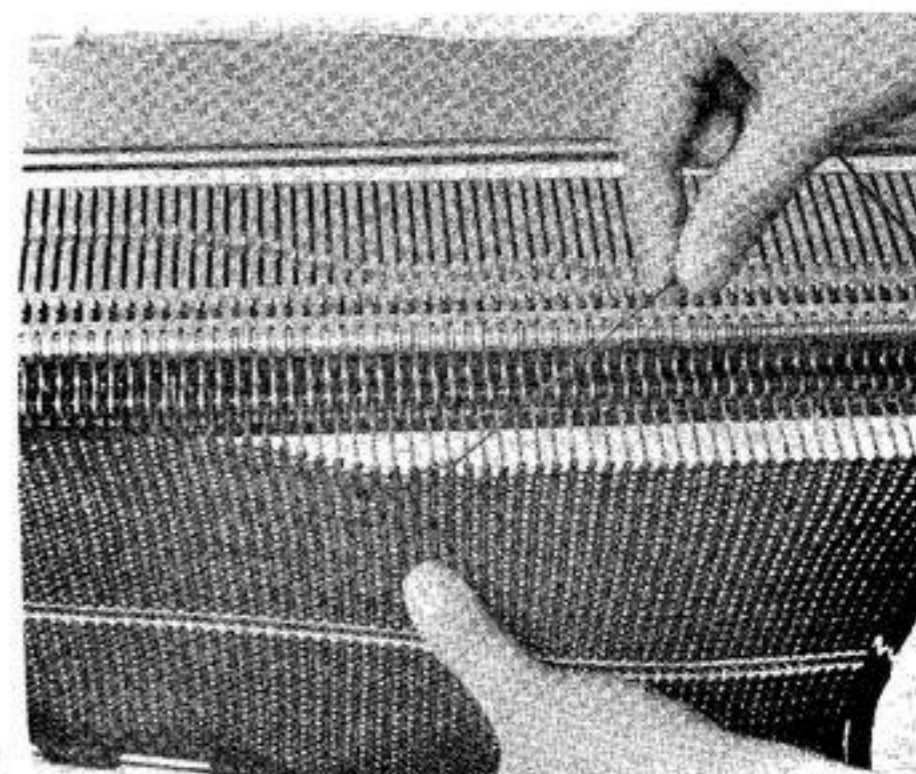

Fig. 50
3. Continue to pull the yarn gently in an upward direction and it will lift out of the needle hooks leaving the stitches of the previous row in the hooks. (Fig. 50)